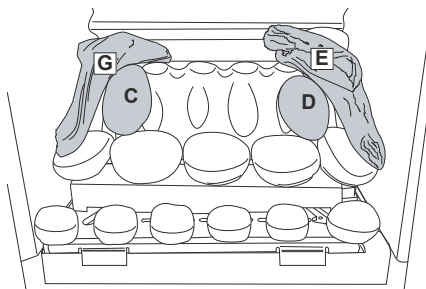

Figure 38
5. Place the **G** and **E** driftwood pieces as shown in **Figure 38** then place the **C** and **D** pebbles (**G** driftwood is not marked).